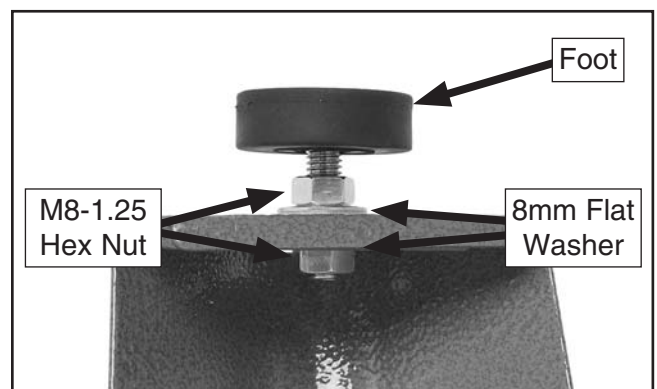

Figure 11. Foot installed with hex nuts and flat washers.
4. Use M8-1.25 hex nuts and 8mm flat washers to attach each foot to the bottom of the stand, as shown in **Figure 11**.